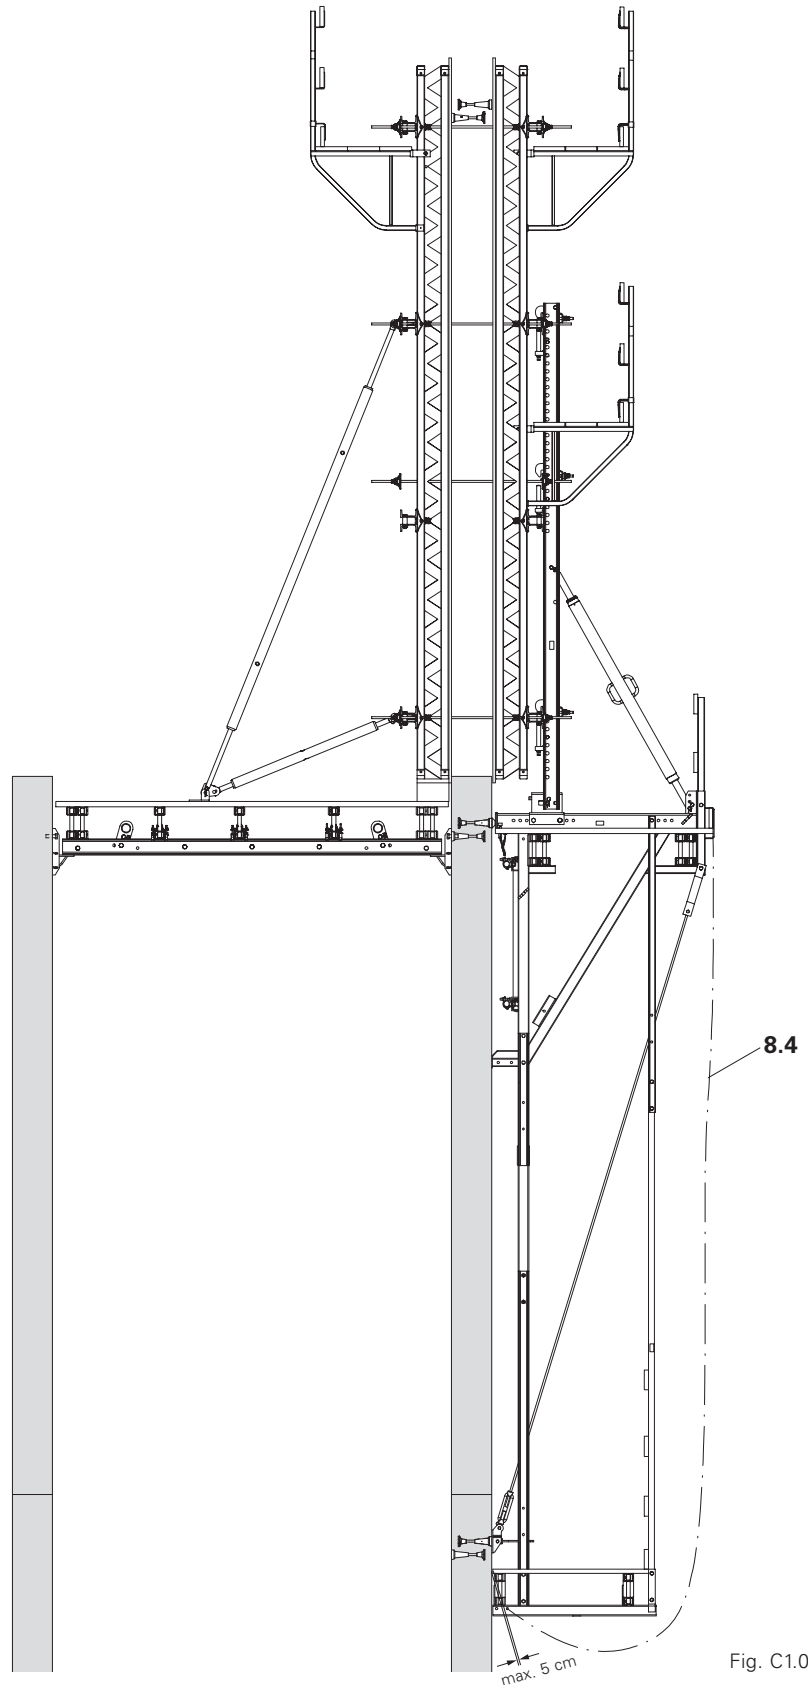

Fig. C1.02
- Safe working conditions for ties are to be provided by intermediate platforms. (Fig. C1.02)